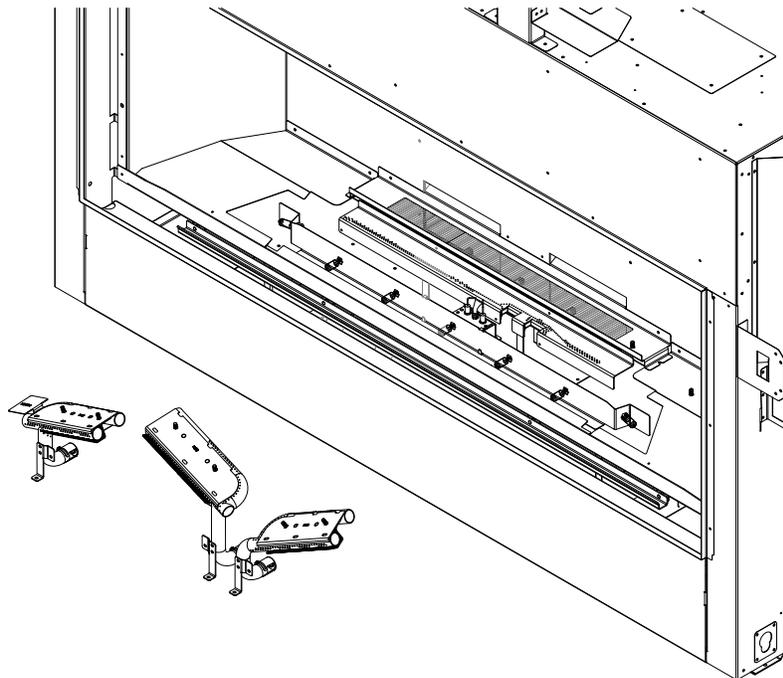

Figure 8.4 - Left, Center, and Right Burner Removal
1. Remove and retain the (6) screws for the left, center, and right burners. Remove burners. See Figure 8.4.